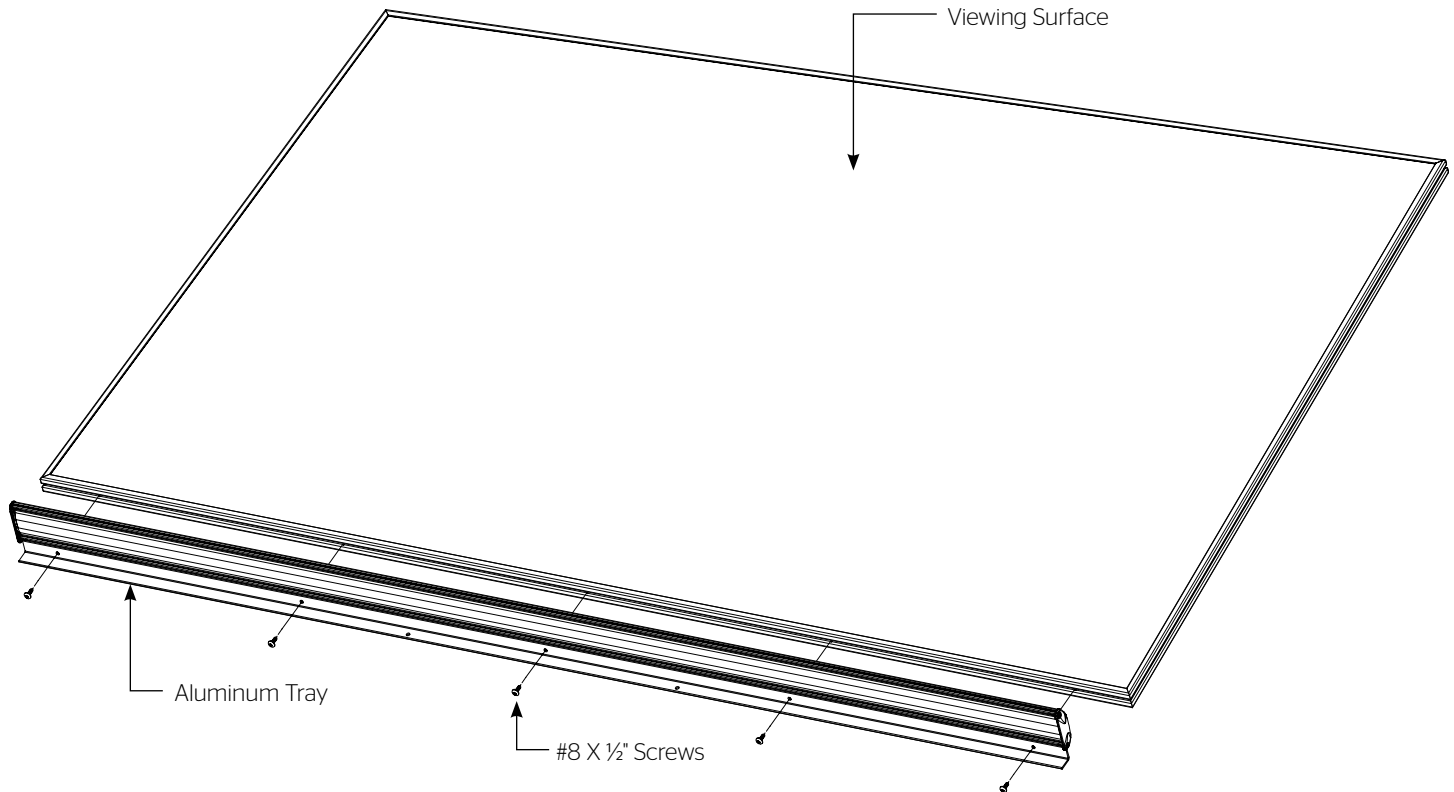

Figure 4
2. Center the marker tray to the bottom of the frame and attach with (7) of the provided #8 x ½" screws (Figure 4). Insert screws through the tray into the groove.